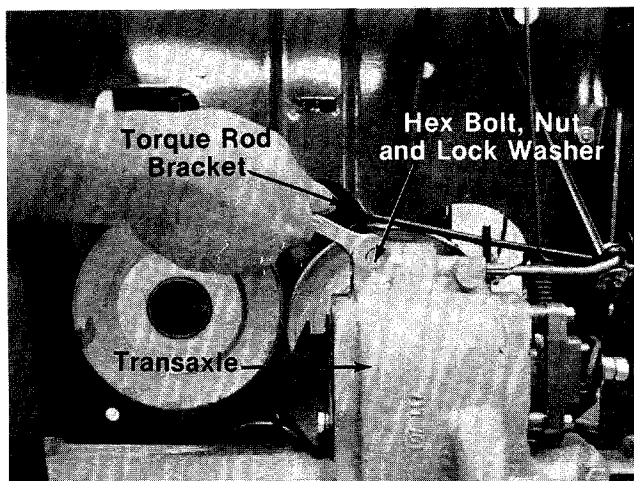

FIGURE 27.
2. Remove the hex bolt, nut and lock washer at the torque rod bracket and transaxle. See figure 27.